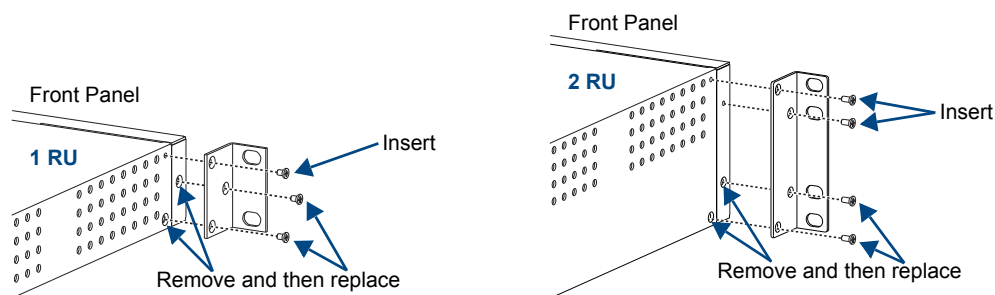

FIG. 3 Attach rack ears to sides of enclosure
- On the side of the Precis DSP, remove the bottom two screws closest to the front panel (FIG. 3). Align the holes on one of the rack ears with the empty holes on the side of the enclosure and replace the screws (three screws for the 1 RU; four screws for the 2 RU). Repeat for the other rack ear.